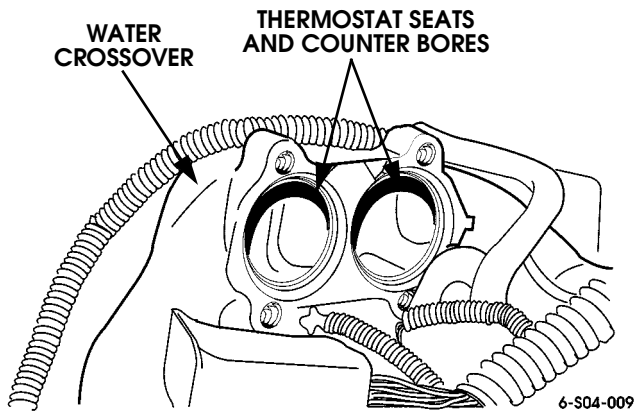

Figure 4-25: Thermostat Location in Crossover (Turbo Diesel)
5. Position new thermostats in crossover housing (Figure 4-25). Be sure thermostat seals are seated in counterbores. Wax pellet end of each thermostat goes toward engine.